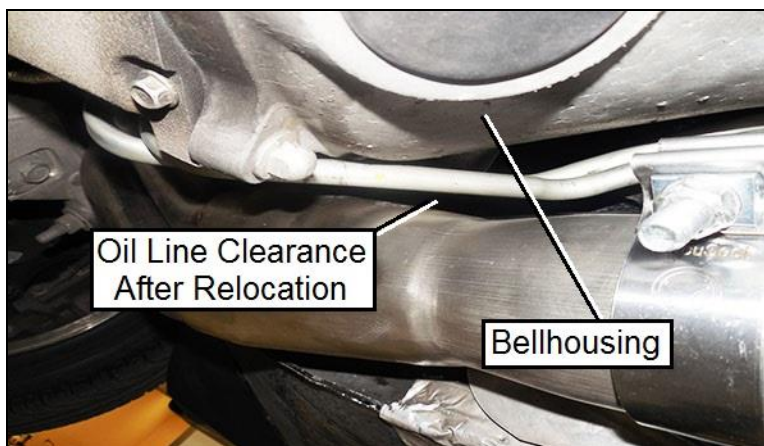

Figure 3
6. **CAREFULLY** bend the lines so that they rest up against the bellhousing (**Figure 3**).